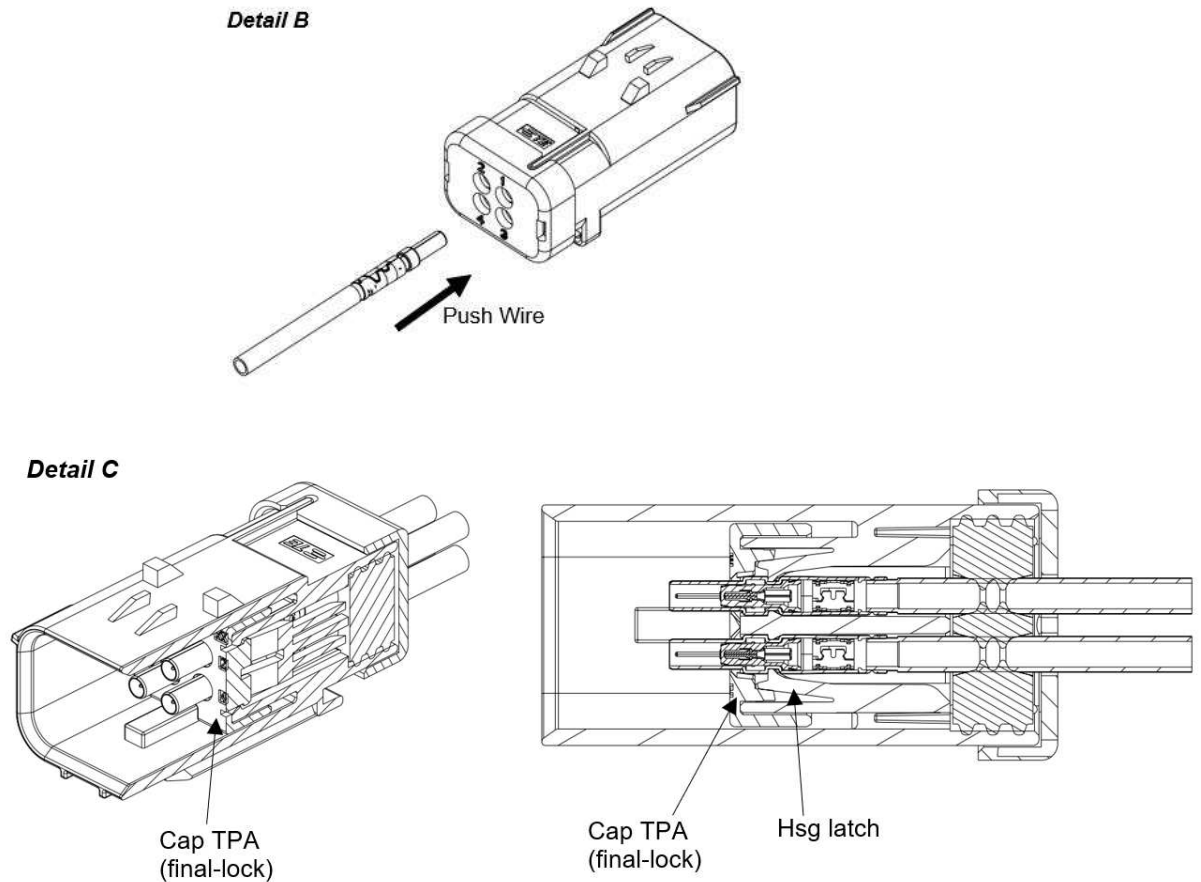

Figure 8
- Make sure that the TPA is in Pre-lock condition as shown in Figure 8, Detail A.
- After the terminals are assembled, push the TPA on the 2/4 side of the TPA with a small screwdriver or TE extraction tool into final lock position until hear the "click" sound as shown in Figure 8 Detail C.